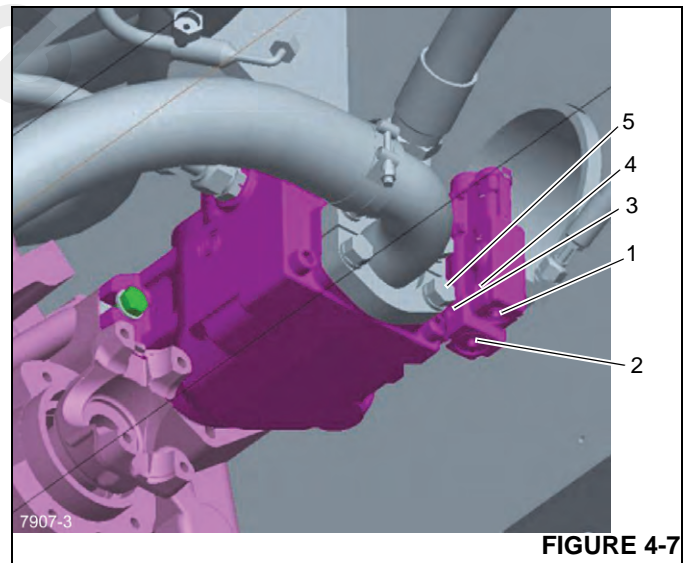

FIGURE 4-7
4. Disconnect the hydraulic hose from bulkhead elbow Figure 4-7 which connects to the rod port of the telescope cylinder. A little oil will drain from the elbow.
4. If pressure is incorrect, loosen the margin set screw from the pump compensator valve (4, Figure 4-7). A 4 mm hex wrench is required for the set screw.
5. Adjust the margin pressure setting by turning the margin adjusting screw (1, Figure 4-7) until  $24.13 \pm 0.35$  bar ( $350 \pm 5$  psi) pressure is obtained on the gauge; clockwise increases pressure, counterclockwise reduces the pressure. A 6 mm hex wrench is required for the adjusting screw.
- a. Remove the bolt on the suction hose split flange by the compensator set screw (5, Figure 4-7).
- b. Loosen the set screw from the pump compensator valve (3, Figure 4-7). A 4 mm hex wrench is required for the set screw.
- c. While engaging the boom down function with the engine at full throttle, adjust the pump max pressure setting by turning the compensator adjusting screw (2, Figure 4-7) until  $289.58 \pm 3.45$  bar ( $4200 \pm 50$  psi) pressure is obtained on the gauge; clockwise increases pressure, counterclockwise reduces the pressure. A 6 mm hex wrench is required for the adjusting screw.
During normal operation the solenoid valves are in the closed (energized) position Figure 4-7. In the closed position oil under pressure is stopped by the solenoid valve from returning to tank. The blocked fluid under pressure passes through a restriction in the valve section to the check valve. The check valve is held closed by a combination of the check valve spring and oil pressure from the closed solenoid valve. In combination, the oil pressure and spring pressure is greater than the return oil pressure and the check valve is kept closed. Return oil is then directed through the valve spool to the outlet port of the control valve.